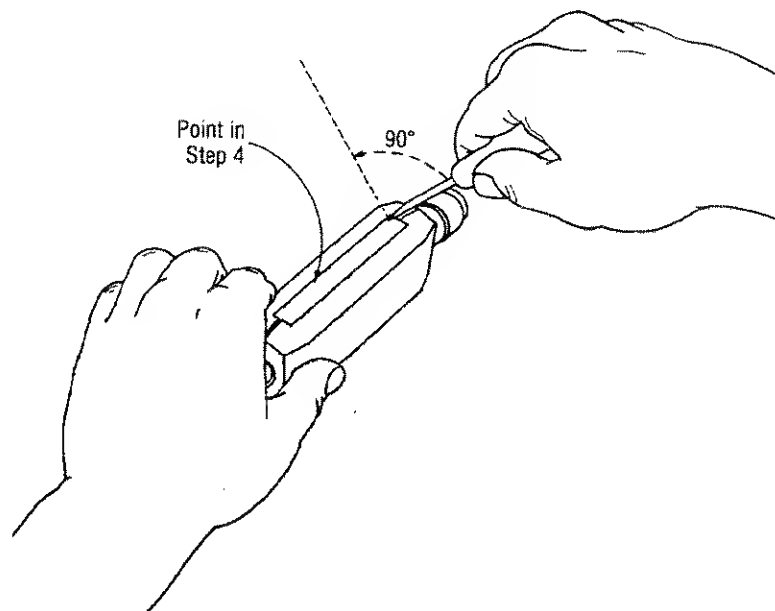

Figure 5-1. Removing the Sensor Covers
1. Place the sensor so its narrow side is on a flat surface. Position it so that the connector is facing away from you. Refer to Figure 5-1.
2. Hold the sides of the sensor near the cable end. Insert the screwdriver at a 45° angle as shown in Figure 5-1. Make sure the screwdriver is inserted as far forward on the sensor as possible.
4. Repeat steps 2 and 3, inserting the screwdriver approximately 2/3 of the way toward the cable end of the sensor, at the point shown in Figure 5-1.
3. Remove the covers. See Figure 5-1 and Removing the Covers in this chapter.